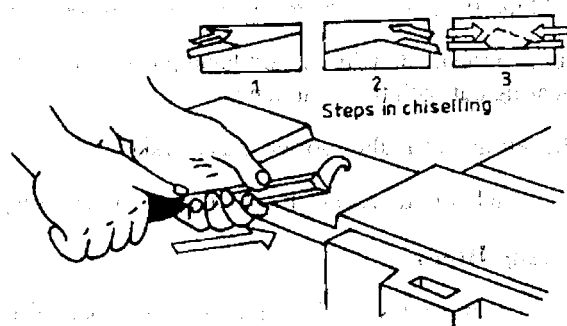

Figure 1.20 : Chiseling
- (b) Push the chisel away from the body and keep both the hands behind the cutting edge (Figure 1.20).
The chiseling steps are shown in Figure 1.20.